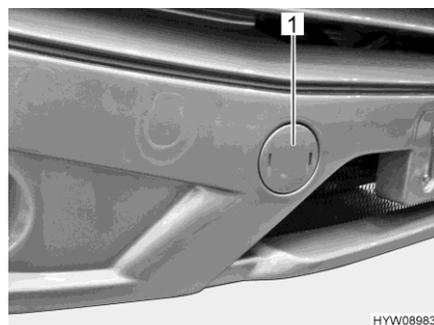

Fig. 38 Cover (mount of the towing eye)
- Lever up the cover (Fig. 38,1) using a screwdriver.